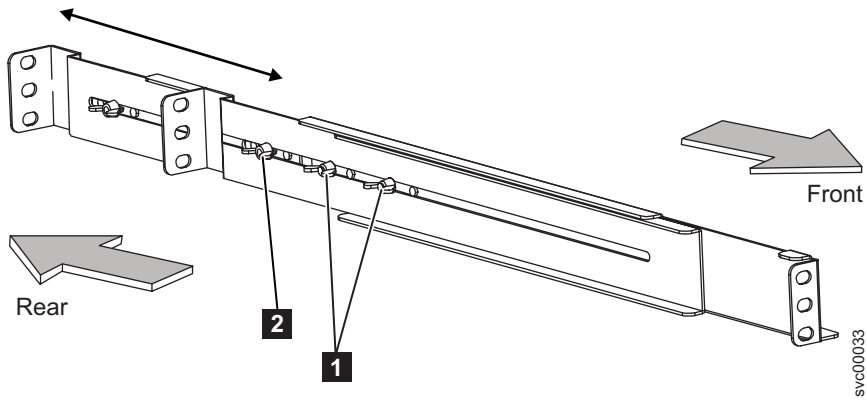

Figure 9. Adjusting the rail depth on the 2145 UPS-1U
4. Loosen the assembly wing nuts (**1** in Figure 9 on page 16) on both rail assemblies and adjust the rail size to the depth of your rack. After you adjust the depth, tighten the assembly wing nuts as much as possible while still allowing some movement.